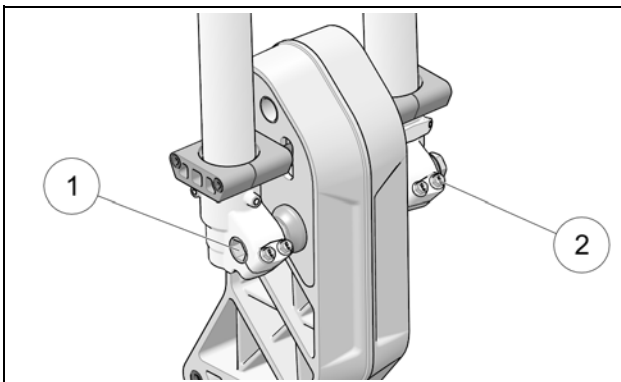

Figure 22
- Tighten, in sequence, to the manufacturer's torque specification: Front Fork Axle (1) and the axle clamp bolts (2) at the bottom of the front fork. See Figure 22.